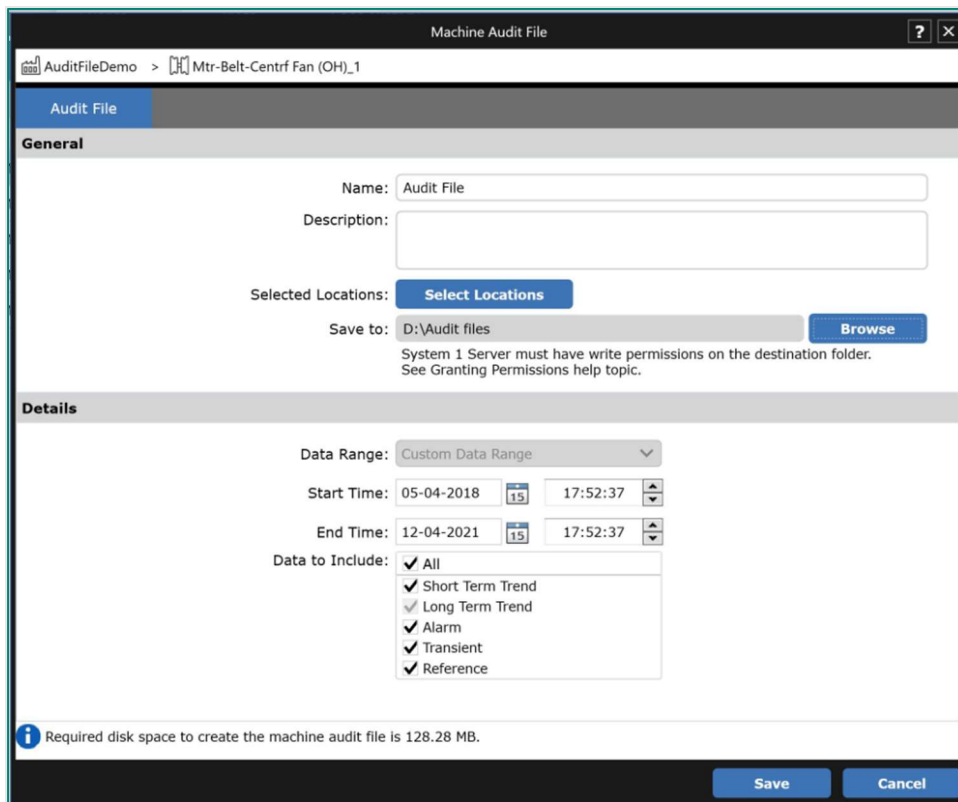
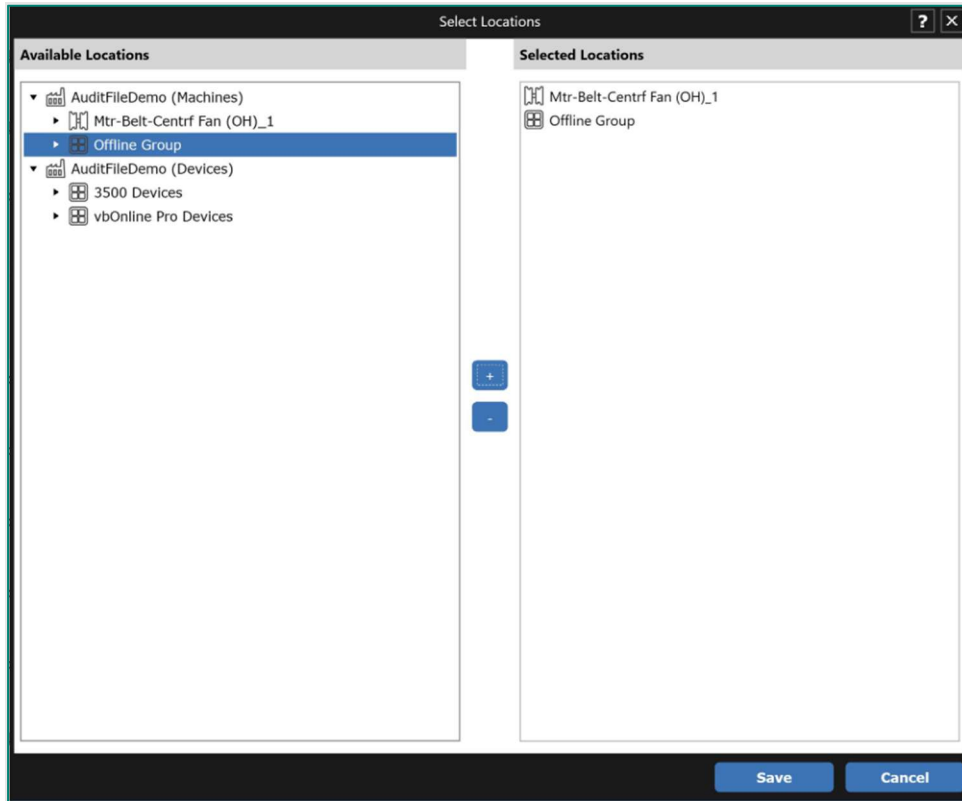

Figure 11: Select Locations Option in Machine Audit File Dialog
Figure 12: Select Locations Screen, Launched from Machine Audit Files Dialog
- Click the "Select Locations" option within the Machine Audit File dialog (Figure 11) to select the Groups, Machine Trains, or Devices from the Hierarchy view (Figure 12)